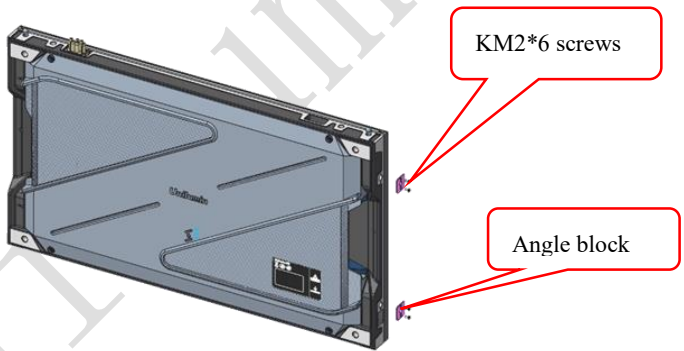
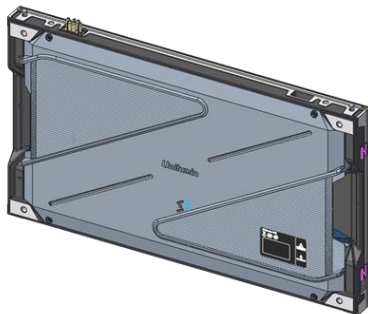

Fig 2-20 Installing angle block 1
Fig 2-21 Installing angle block 2
- 3) Fix the angle block on the screw hole on the right side of the cabinet with KM2 * 6 screw, as shown in Fig. 2-20 and Fig. 2-21;